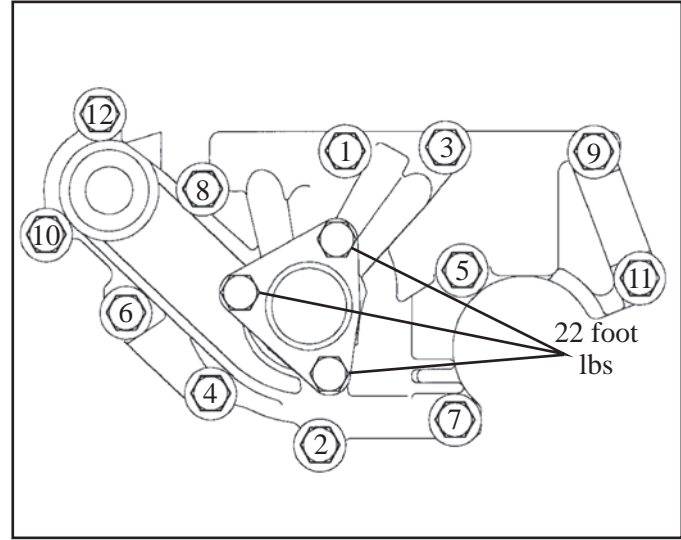

Figure 156
19. Torque each of the pump housing to case bolts to 12 N·m (106 inch lbs) in the numerical sequence shown in Figure 156.
20. If it was necessary to remove the three 13 mm stator support retaining bolts, torque them down to 30 N·m (22 foot lbs) (See Figure 156)